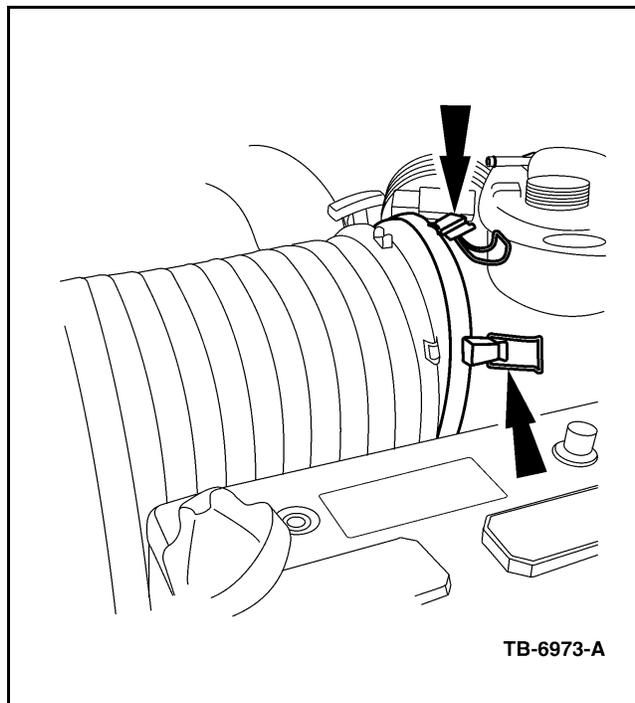

Figure 9 - Article 03-1-9
3. This step may require some effort/force to assemble the cover to the filter. Pull cover up, and bring it at an angle to attach the 2 tabs to the 2 windows at the bottom of the clean side as shown in Figures 9 and 10. In the next step, make sure clamps are out of the way and do not interfere with the seal.